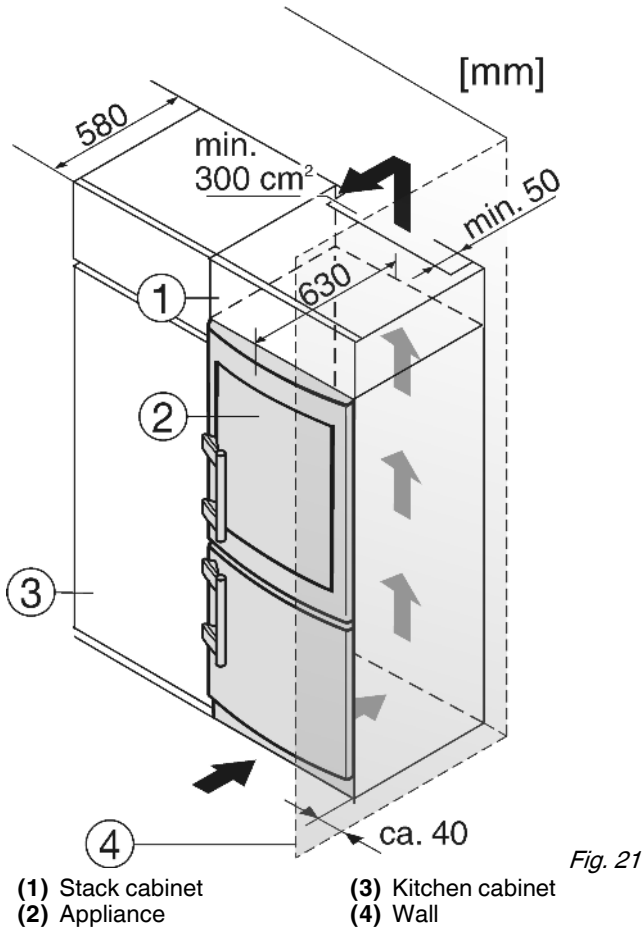

Fig. 21
The appliance can be inserted into a row of kitchen units. To match the appliance Fig. 21 (2) to the height of the row of units, a suitable stack cabinet Fig. 21 (1) can be fitted above the appliance.
When inserting the appliance into a row of kitchen units (max. depth 580 mm), the appliance can be installed directly next to the kitchen unit Fig. 21 (3). The appliance door projects relative to the front of the kitchen unit by 34 mm at the side and by 50 mm in the middle of the appliance. It can be opened and closed perfectly as a result.
If the appliance is installed with the hinges next to a wall Fig. 21 (4), the distance between appliance and wall has to be at least 40 mm. This corresponds to the projection of the handle when the door is open.